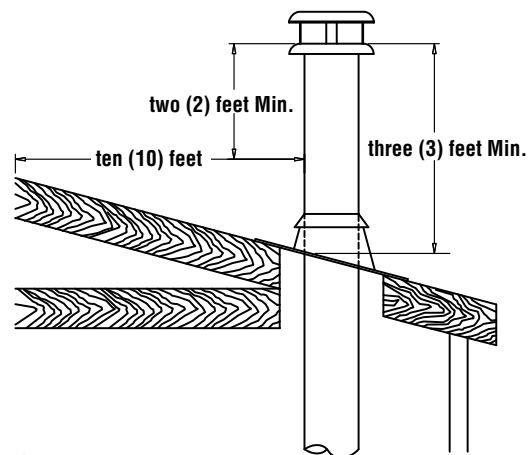

Figure 27
6. The chimney must extend at least three (3) feet (915 mm) above its point of contact with the roof and at least two (2) feet (610 mm) higher than any wall, roof or building within ten (10) feet (3m) of it (**Figure 27**).
7. If the chimney extends higher than five (5) feet (1,500 mm) above its point of contact with the roof, it must be secured using a roof brace.